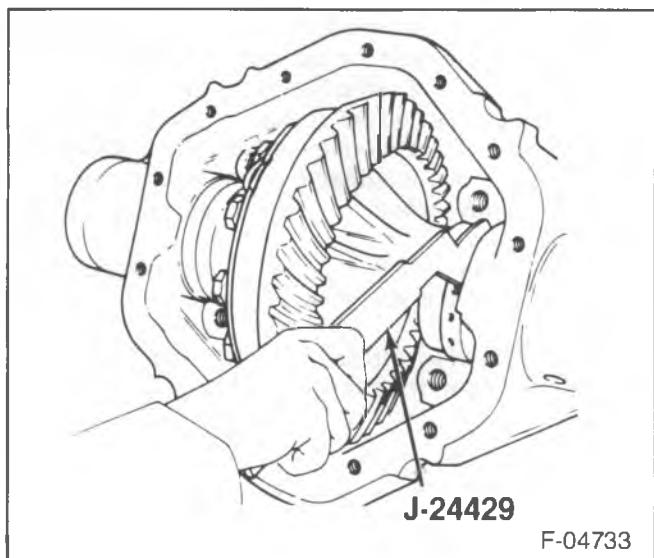

Figure 21—Adjusting the Nut
1. The bearing cups (22) to the differential bearings in their original locations.
3. Bearing shims (21).
4. Adjusting nut (17).
5. Bearing caps (19) and bolts (20) in their original positions.
- Turn the adjusting nut until the nut contacts the shim. Then tighten the nut three additional slots (figure 21).